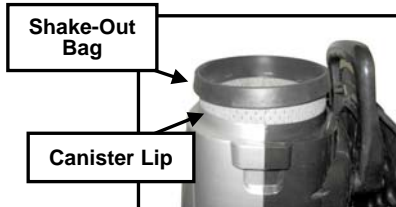

Fig. 4
6. Ensure that the shake-out bag is in place. (Fig. 4)